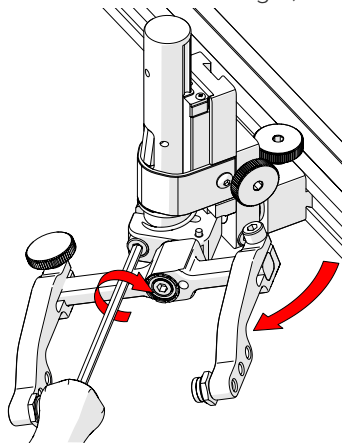

Fig. 88 - Rotate and tighten
3. Tighten the transverse adjustment screw (Fig. 88).